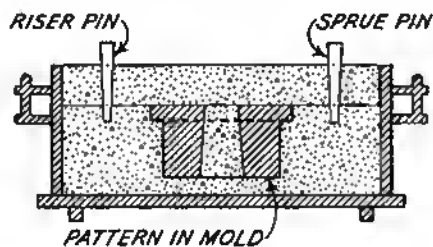

FIG. 98.
9. Riddle sand on top. Fill, ram, and strike off as on the drag side (Fig. 98).